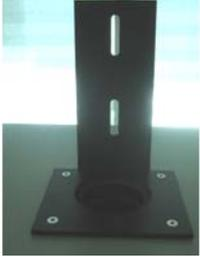

Figure E-3: Securing Screws into Bracket
3. Use an Allen's wrench to screw four screws into the bracket; see Figure E-3.